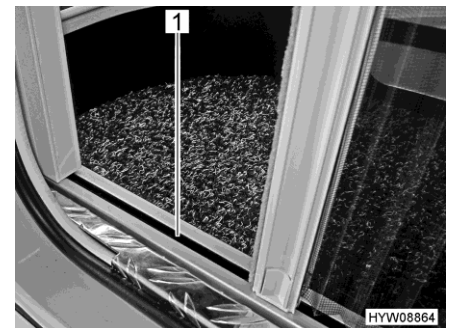

Fig. 60 Insect screen (bottom guide)
- ▷ Hold holding bar with both hands when closing or opening. This reduces the risk of the insect screen getting stuck in the guides (Fig. 60,1).